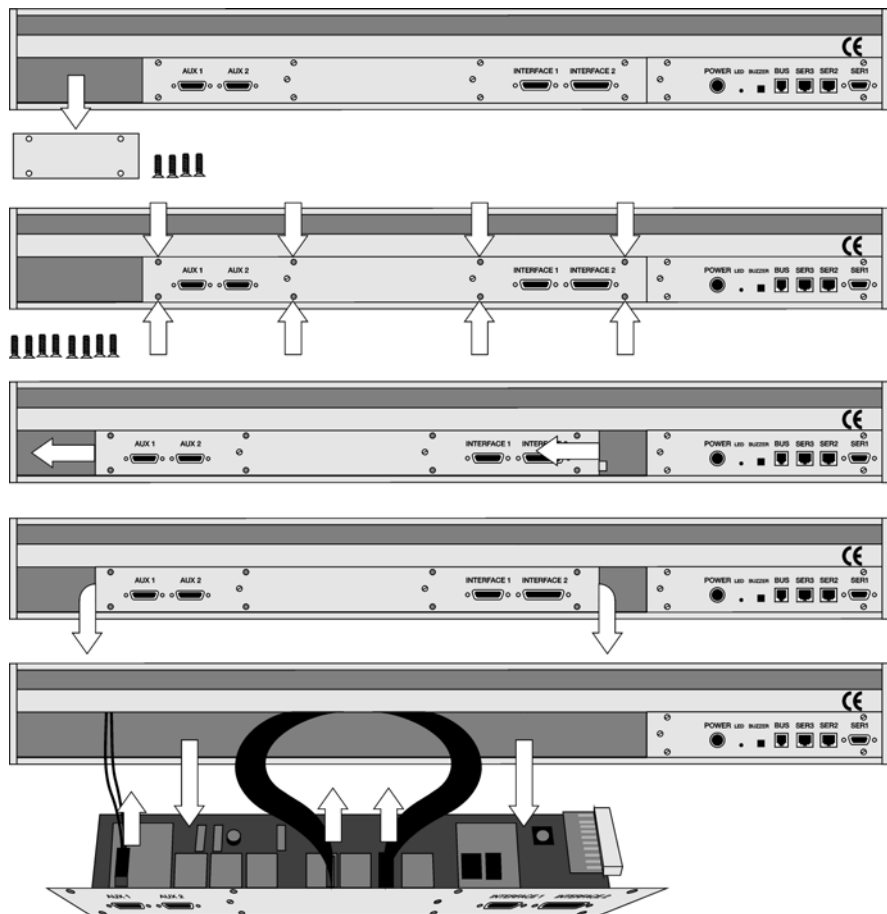

Figure 43 Replacing MOTIO Board
- 1 Follow the sequence shown in Figure 43 to detach and release the MOTIO board from its position inside the X Crossrail.